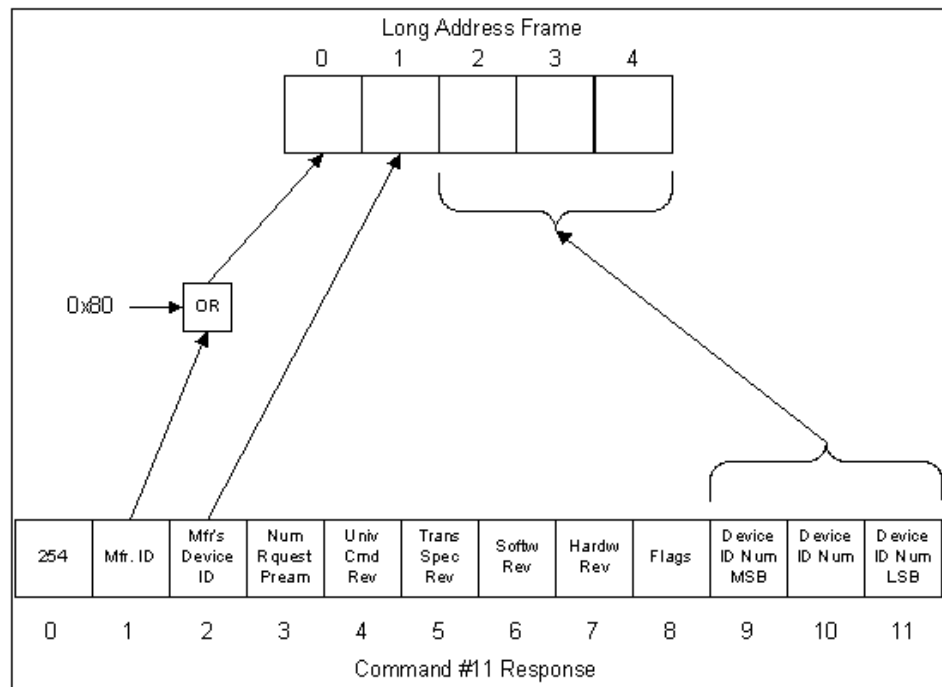

Figure 4-2 Command #11 Response to Long Frame Address
2. Extract the Manufacturer ID, Manufacturer's Device ID, and Device ID Number from the response and construct the LongAddress Frame as shown in Figure 4-2.